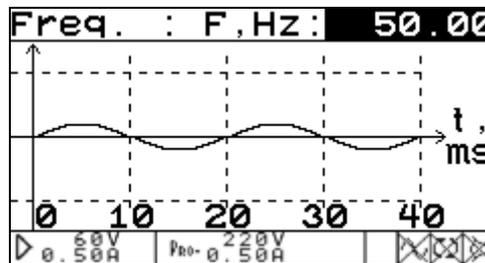

Fig. 4.8. “Signal frequency” setup window
-  — no monitoring of mains frequency is maintained at the moment. The Generator produces its output signals in accordance with the frequency specified by the “frequency” parameter (Fig. 4.8)
In the “Frequency” window (Fig. 4.8) you can set fundamental frequency (i.e. frequency of the first harmonic) for the 3-phase system of voltage/current waveforms. This parameter **will be applied only if the mains synchronization mode is disabled** (☒).